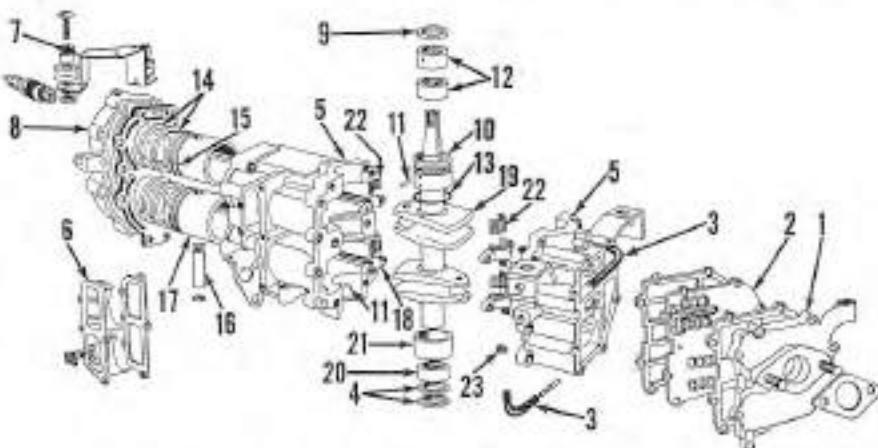

Fig. Mc30 — Exploded view of power head used on 5 horsepower models.
5 Horsepower Models: Refer to Fig. Mc30. One half of the crankcase is integral with the cylinder block. Upper and lower main bearings are of the needle roller type enclosed in a cage. The center main bearing of die-cast bronze is integral with the cylinder block. To disassemble, remove the cylinder head (8), inlet manifold (1) and transfer port covers (6); then unbolt and remove the crankcase front half. Pistons, rods, crankshaft and bearings are now accessible for removal and overhauled as outlined in the appropriate following paragraphs.